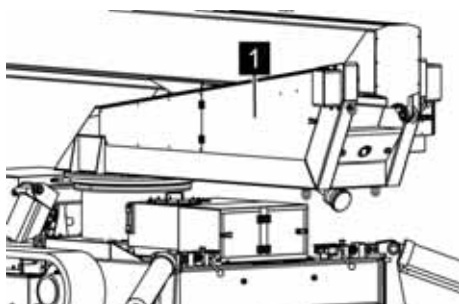

Fig. 80: Door
3. ➤ Open the door (Fig. 80/1) in the lift arm holder. The charging station is behind this.